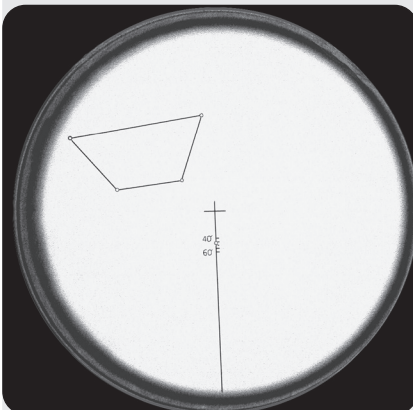

Fig. 36: The view inside the polar alignment viewfinder reticle (the four stars show an association near the southern celestial pole)
1. Point the viewfinder against a bright surface (not in any case at the sun!) and see the scaled line with the center cross (Fig. 36). Turn the viewfinder's eyepiece until the scales are focussed.